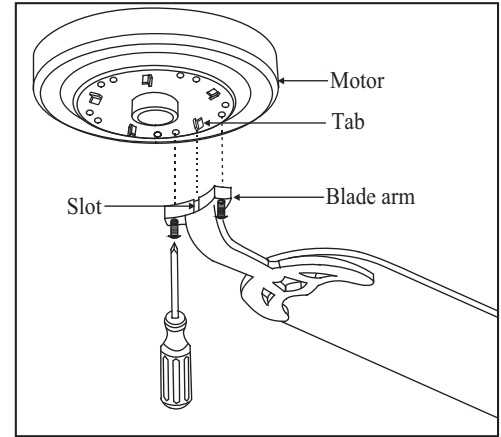

Figure 10
3. Fasten the blade assemblies to the motor housing by lining up the slots of the blade arms with the tabs on the motor housing, then tighten the two screws and washers already installed in the blade arms. (Fig. 10)